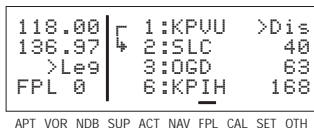
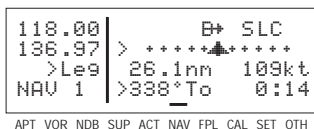
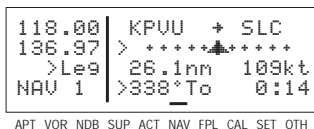

Figure 4-27
Figure 4-28
Figure 4-29
- The active leg of the flight plan is designated with a ↙ symbol. A leg is defined as the course line between a pair of waypoints (a "from" waypoint and a "to" waypoint). The head of the arrow is positioned to the left of and points to the active "to" waypoint. In figure 4-27, SLC (Salt Lake City VOR) is the "to" waypoint. The tail of the ↙ symbol is positioned to the left of the "from" waypoint. KPVU (Provo Municipal) is the "from" waypoint in figure 4-27. The ↙ symbol is not displayed unless the KLX 135A is actually receiving GPS signals suitable for navigation. (**Note:** If the unit is in the take-home mode, it has been "tricked" into thinking it is receiving signals and therefore the ↙ symbol can be displayed). Also, the ↙ symbol will not be displayed if Direct To navigation is occurring and the Direct To waypoint is not in FPL 0. If in doubt as to whether or not Direct To operation is occurring, view the NAV 1 page. If the top line shows the B➔ symbol (figure 4-28) instead of a "from" waypoint (figure 4-29), then Direct To navigation is occurring. If it is desired to cancel the Direct To operation and operate from the active flight plan, press **▶**, **CLR**, and then **ENT**.
waypoint is not in FPL 0. If in doubt as to whether or not Direct To operation is occurring, view the NAV 1 page. If the top line shows the B➔ symbol (figure 4-28) instead of a "from" waypoint (figure 4-29), then Direct To navigation is occurring. If it is desired to cancel the Direct To operation and operate from the active flight plan, press **▶**, **CLR**, and then **ENT**.